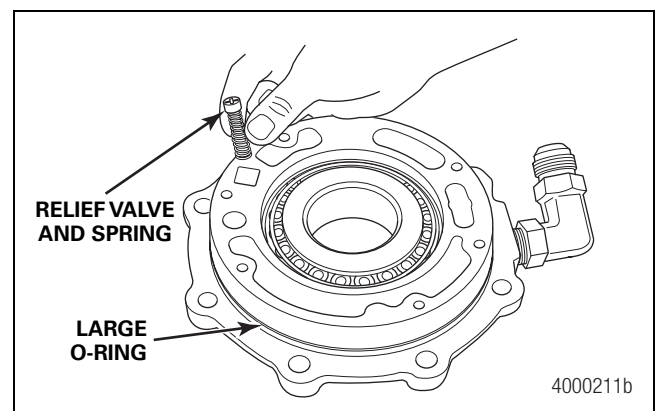
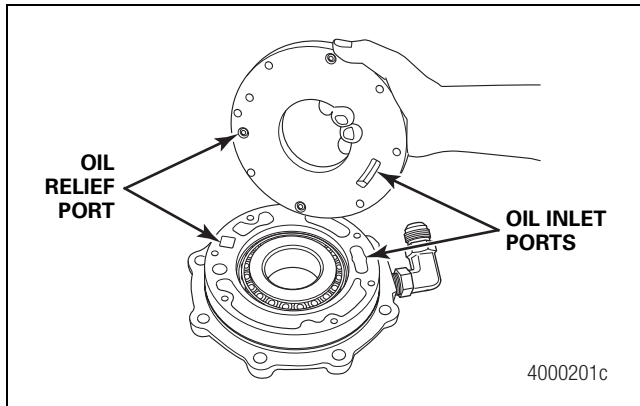

Figure 6.7
Figure 6.8
2. Place the large O-ring around the groove on the bearing cage. Figure 6.7.
- A. Pack grease into the pump oil inlet port before assembling the oil pump to the input bearing cage. Figure 6.8.
- C. Insert the relief valve and spring into the relief port of the input bearing cage. Install the large diameter end of the spring down. Figure 6.7. Align the oil pump inlet with the oil inlet port of the input bearing cage. Figure 6.8.